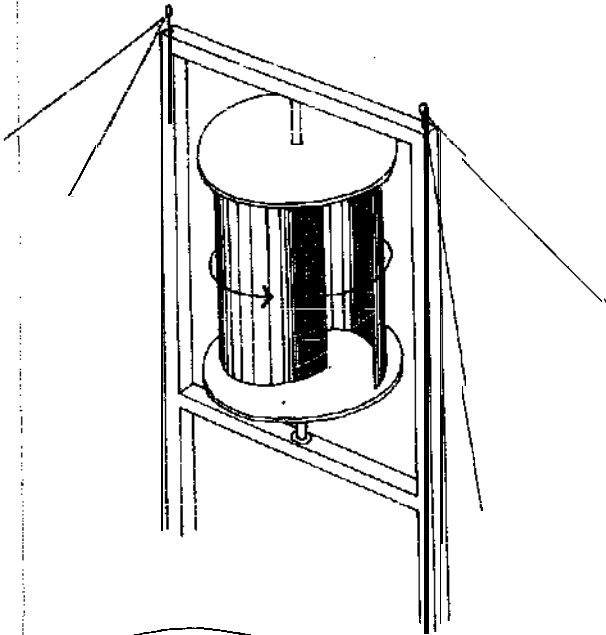

Fig 7. Savonius rotor.
Fig 7. In the solar collector used in the BRAD house (above) water is pumped up to a perforated pipe running along the ridge of the roof (left) and trickles over grey corrugated aluminium sheets where it is warmed by absorbed solar energy before being collected in a trough at the bottom.
The collector used by BRAD in Wales is of this type (see Fig 7); the absorber is dark grey anodized corrugated aluminium and the water is fed through a perforated pipe at the top and collected in a plastic gutter at the bottom. The collector gives water at 50°C in summer. One problem of open collectors, in theory if not in practice, is that water vapour will condense on the clear cover and lessen the amount of heat collected. This does occur at BRAD but does not seem to affect the operation of the collector significantly. Another problem is that as the system is not sealed, algae, fungi and other organisms that like warm damp conditions will tend to start growing. This can be stopped by putting a suitable fungicide in the circulating water. The fungicide should not contain any metallic salts that might corrode the metal absorber. Advantages of the open collector are its cheapness and the fact that it is self-draining and will therefore not freeze.
3. Savonius Rotor (see Fig 7). This machine derives from the cup windmill, and bears a resemblance to the transverse flow machine. It consists of a vertical cylinder sliced in half along its vertical axis, the two halves so formed being pulled apart about 20% of the original diameter (there are some variations in this distance and in the shape of the curvature of the blades, from a fairly streamlined almost airfoil shape to a simple semi-circle). This